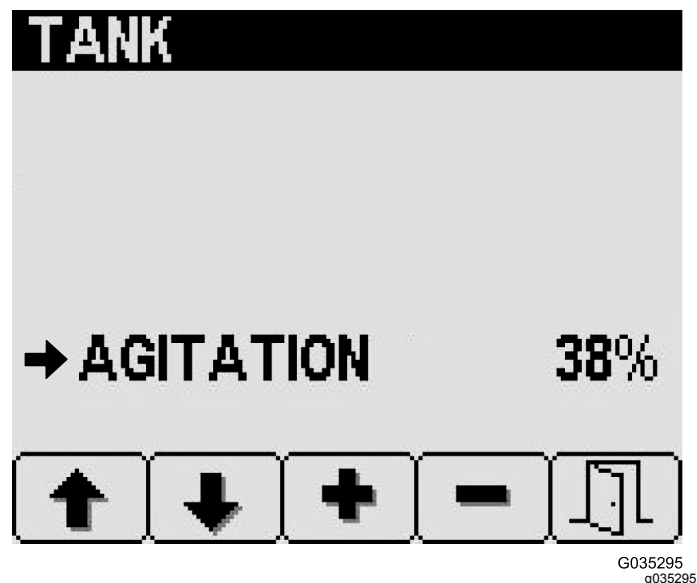

Figure 26
2. At the Tank screen, press button 2 to navigate to the Agitation option (Figure 26).
- Press button 3 (raise) or button 4 (lower) to adjust the percent of sprayer-pump flow used for tank agitation (Figure 26).